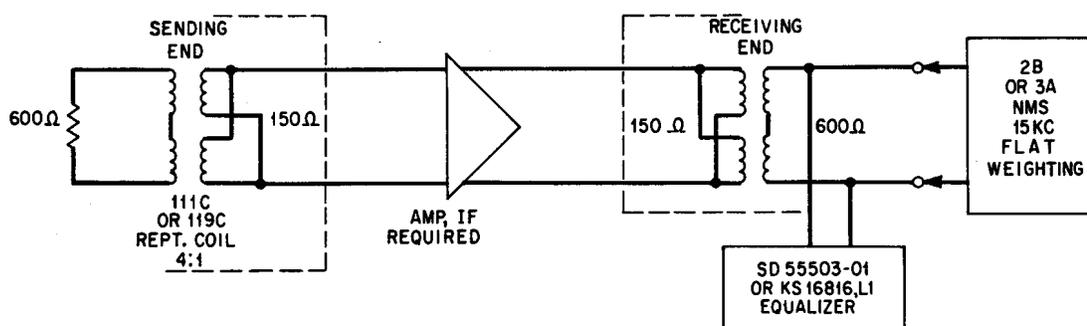

Fig. 3 - Final Noise Test for 15 kc Circuit
3.01 For 15 kc circuits, the test setup for the final noise measurements is shown in Fig. 3. The 2B Noise Measuring Set should be modified for 15 kc flat weighting. The 3A NMS should be equipped with the 15 kc flat weighting network. The sets should be connected to the circuit in accordance with the standard practices for the instruments.
3.04 The crosstalk should be observed using the setup of Fig. 3 and using the monitoring receiver provided with the 2B or 3A set. No intelligible words or syllables should be heard with the DB dial of the set adjusted to the same dial setting for measuring noise. The circuit should be monitored for at least 10 minutes during the heavy traffic load period.